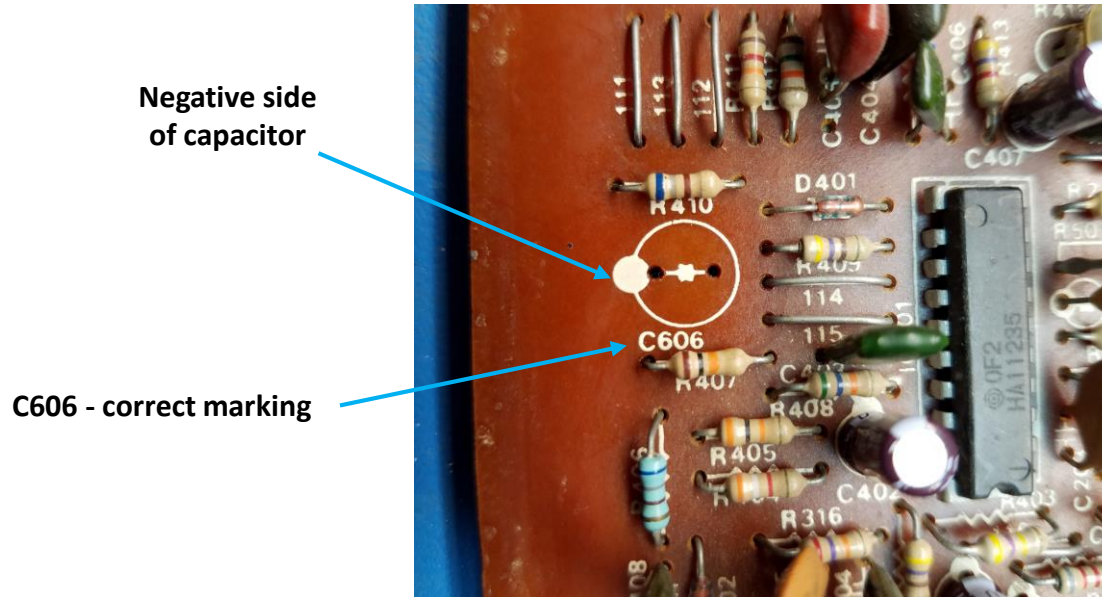

Figure 1
1. The component side of the main PCB is marked with a white dot on the negative side of each capacitor, as shown in Figure 1.